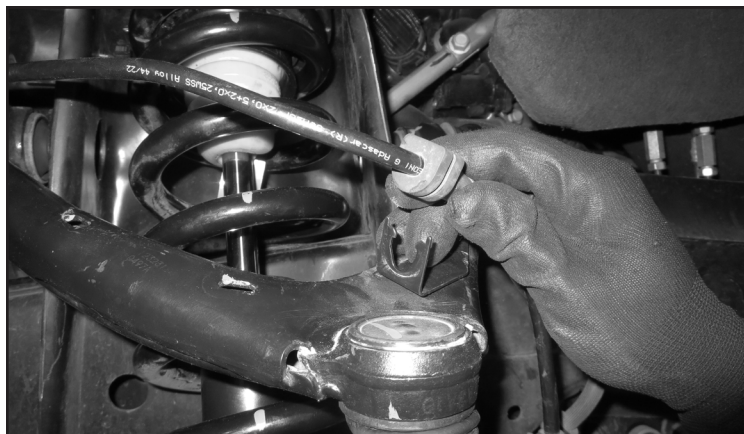

FIGURE 1 - STEP 2
2. Starting with the driver side. Unclip the ABS wire from the knuckle and unclip it from the frame bracket. **SEE FIGURE 1**